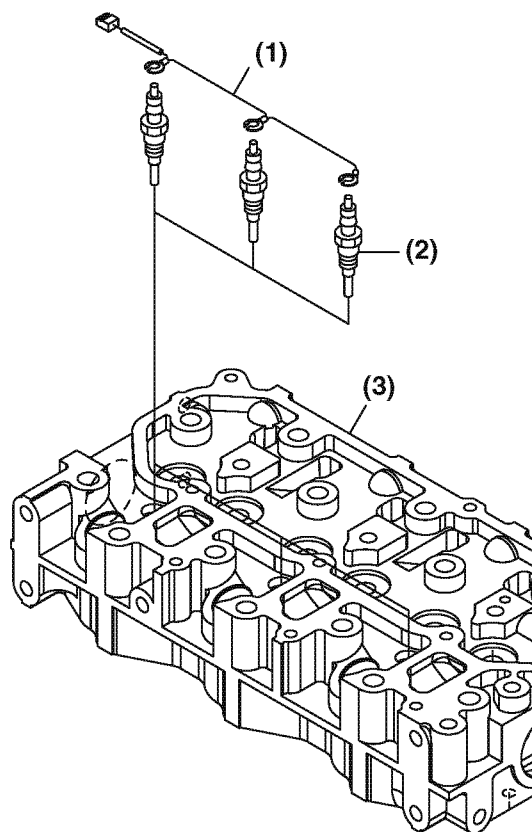

Figure 11-17
The glow plugs (Figure 11-17, (2)) are mounted to the cylinder head (Figure 11-17, (3)) and are operated by the glow plug switch on the instrument panel.